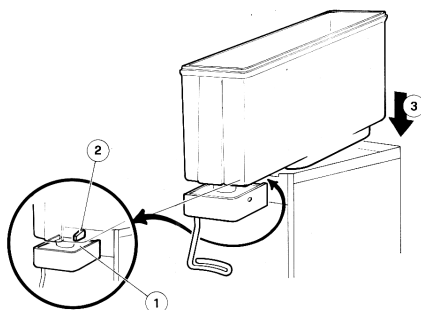

figure 8
4 Fit the bowl gasket to the evaporator. Note: the largest brim of the gasket must face against the drip plate (see figure 8).
CADDY 5/2 - 5/3 - 5/4: be sure first that the faucet top (1) is under the tooth jutting (2) out of the drip plate (see figure 8).